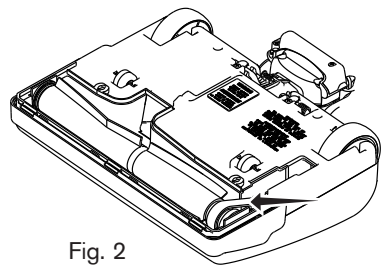

Fig. 2
- Reinstall the brushroll into the nozzle. Turn the brushroll by hand, making sure the belt is not twisted and all rotating parts move smoothly (Fig. 2).